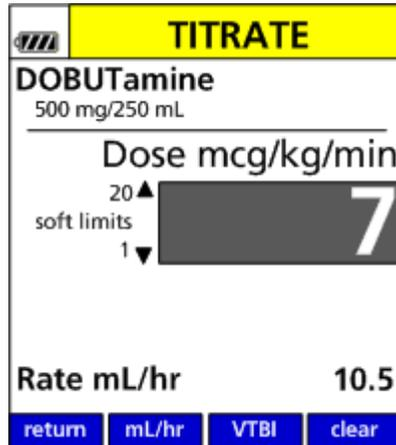

Figure 56. Titrate Screen with New Dose.
3. Enter a new dose. (See Figure 56.)